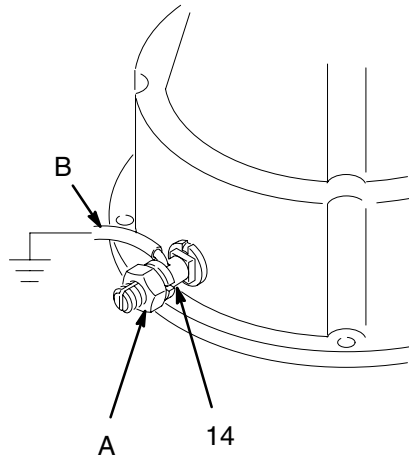

Fig. 2
1. *Pump:* use a ground wire and clamp as shown to the right. Loosen the locknut (A) of the grounding lug and washer. Insert one end of the wire (B) in the grounding lug (14) and tighten the locknut securely. See Fig. 2. Connect the other end of the wire to a true earth ground, as recommended by your local code. Order Part No. 237569, Ground Wire and Clamp.